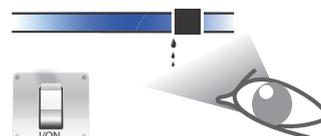

Fig. 28 Inspect for leaks after operation
12. Check that all hot-water connections are tight and not leaking, when the hot water has been run for several minutes. See fig. 28.